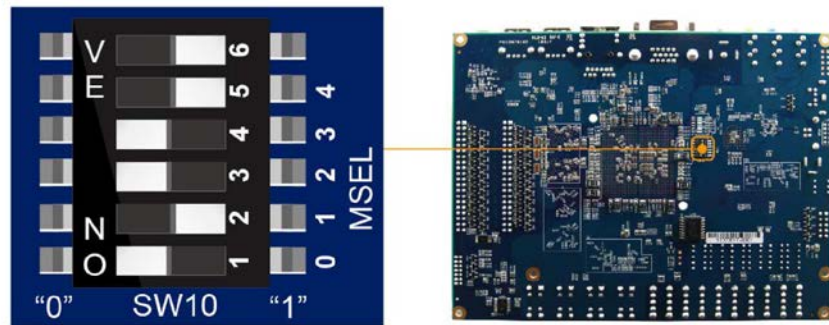

Figure 1: SW10 Location with Default Configuration for JTAG Programming
1. On the bottom of the DE1-SoC, there is a set of switches which dictate how the FPGA is programmed. Figure 1 shows the location of these switches. For the default JTAG configuration, these switches should be set “**001101**” from highest to lowest order. For OpenCL, these switches should be set to “**110101**”